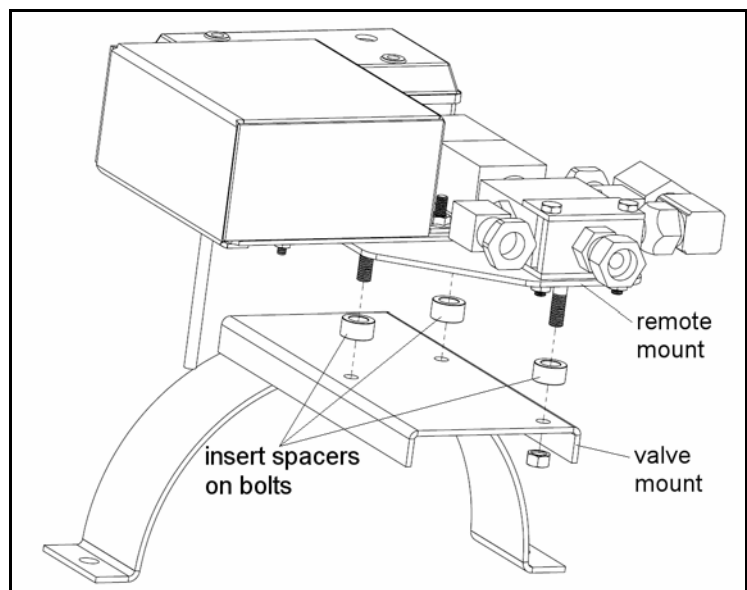
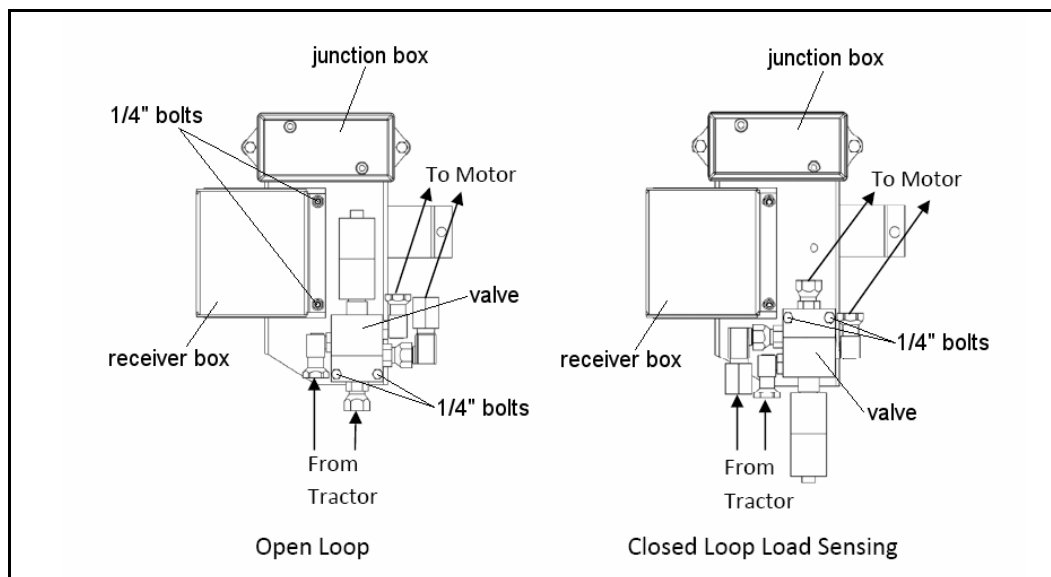

Figure 3.1
Figure 3.3
The Remote Powerswing Retrofit is designed to allow the Hydraulic Powerswing to function via remote. To install, follow the steps below and refer to Figure 3.1 and Figure 3.3.
3. Place one of the supplied spacers on each of the three bolts on the lower side of the Remote Retrofit mount (see Figure 3.1).
When shipped, the valve will be set-up for Open Loop usage. Should you require the **valve set-up for CLLS**, follow these steps and refer to Figure 3.3.
2. Lift the valve, bolts, and spacers from the mount as one, rotate it 180° as shown in Figure 3.3.